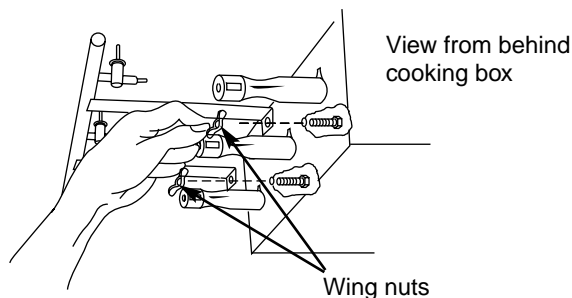

Figure 12
f) Remove the manifold bracket and unscrew the two wing nuts that hold the manifold to the cooking box. Pull the manifold and valve assembly out of the burners and carefully set it down. Figure 12.